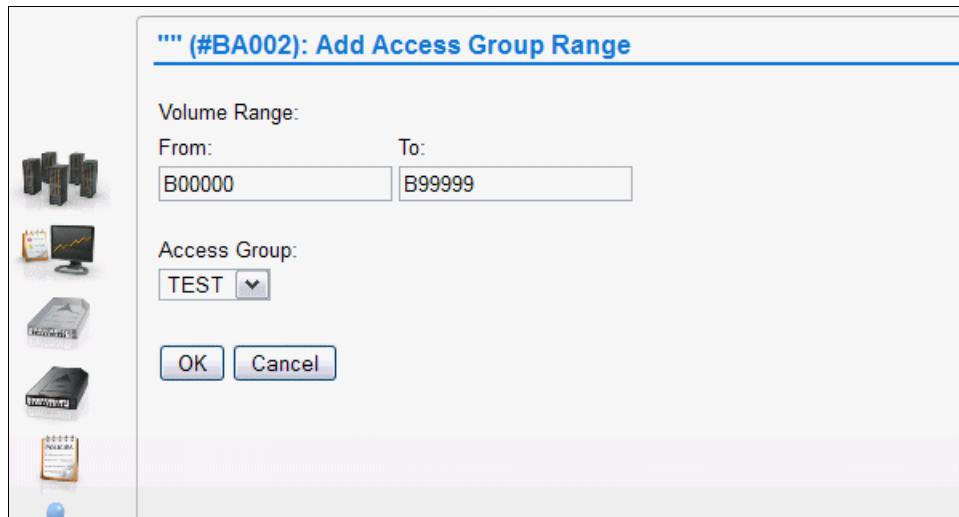

Figure I-15 Add VOLSER range for TEST LPAR
5. Define logical volume ranges to the access groups, as shown in Figure I-15.